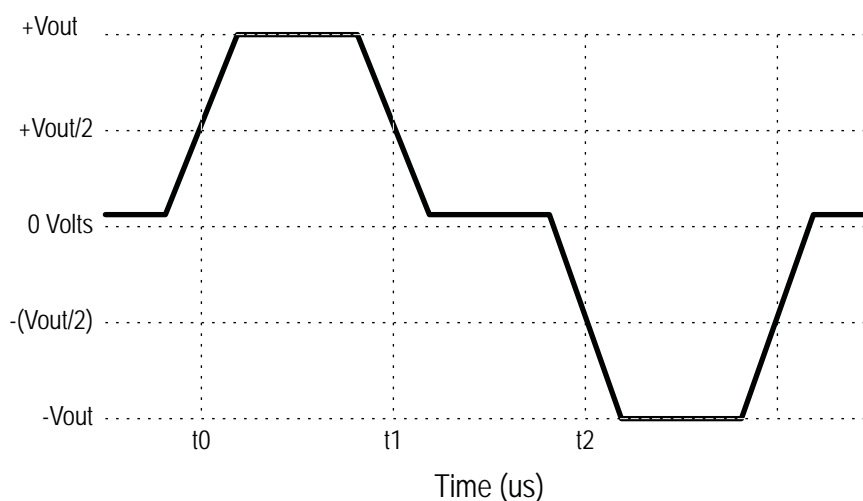

Figure 42 Bottom Threshold
Figure 42 illustrates the effects of choosing $-(+V_{out}/2)$ as the bottom crossing threshold. The reference waveform is redrawn with exaggerated baseline wander. Note that the choice of $-(+V_{out}/2)$ as the bottom threshold results in worse duty cycle distortion value than if $-V_{out}/2$ were chosen as the negative threshold.
- 2 Ensure that the DUT is sending the MLT-3 encoded 01010101 NRZ bit sequence as shown in Figure 42.
Figure 42 illustrates the effects of choosing $-(+V_{out}/2)$ as the bottom crossing threshold. The reference waveform is redrawn with exaggerated baseline wander. Note that the choice of $-(+V_{out}/2)$ as the bottom threshold causes a worst peak-to-peak duty cycle distortion value than if $-V_{out}/2$ were chosen as the negative threshold.
As indicated in Figure 42, the 4 successive 50% crossing times are measured. These are named t_0 , t_1 , t_2 , and t_3 respectively. The specification states that the deviations of the 50% crossing times from a best fit grid of 16 ns shall not exceed ± 250 ps. We validate this specification in terms of the peak-to-peak duty cycle distortion requirement of 500 ps. This is done as follows: